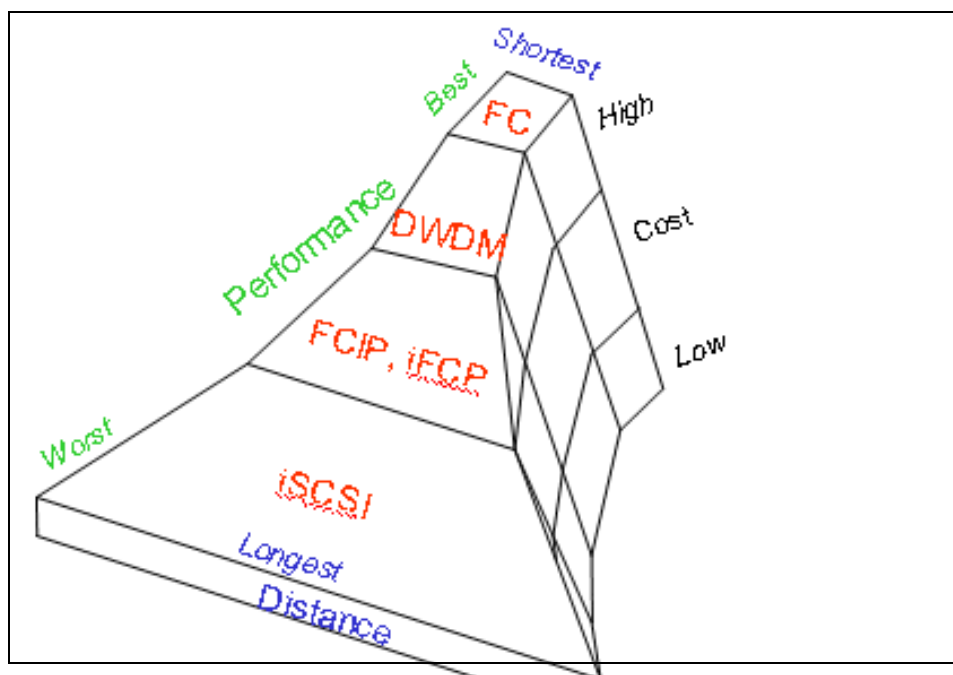

Figure D-9: Dark Fiber with WDM
- For long distances (more than several dozen kilometers), an optical amplifier is required to amplify the wavelength between two extenders to prevent attenuation through a fiber. Therefore, dark fibers are required to prepare for IN and OUT respectively. This is illustrated in Figure D-9.